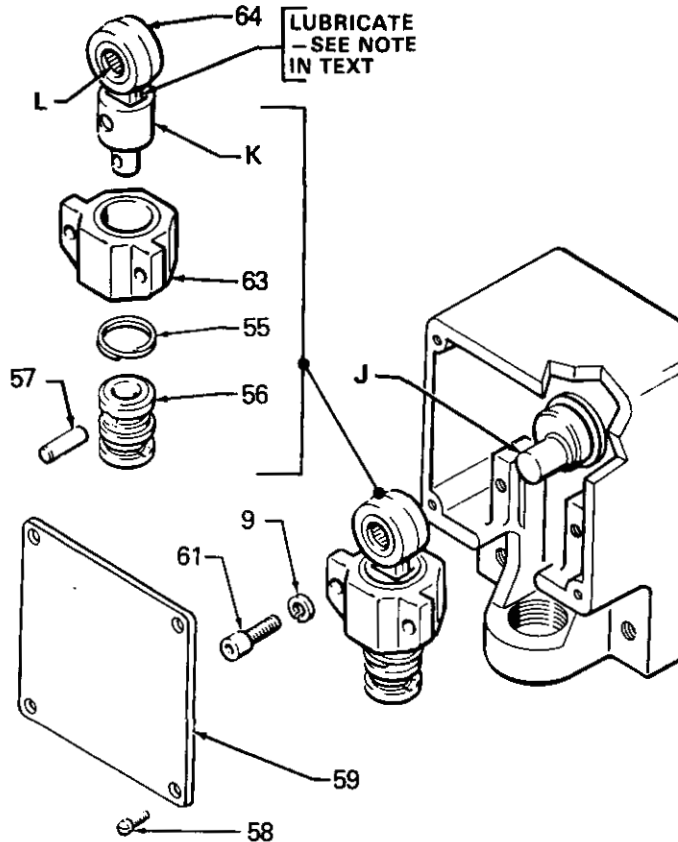

Fig 5
Remove the pump as described on page 14. Remove the four screws (58) and the cover (59). Remove the two capscrews (61) and lockwashers (9). Remove the bearing (63) and the connecting rod (64), sliding the connecting rod off the crankshaft (J). See Fig 5.